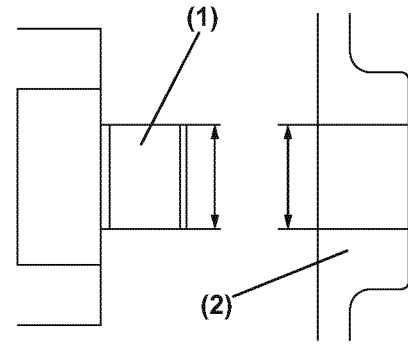

Figure 9-8
Inspect the rotor shaft clearance. Measure the outside diameter of the rotor shaft (**Figure 9-8, (1)**) and the inside diameter of the cover.